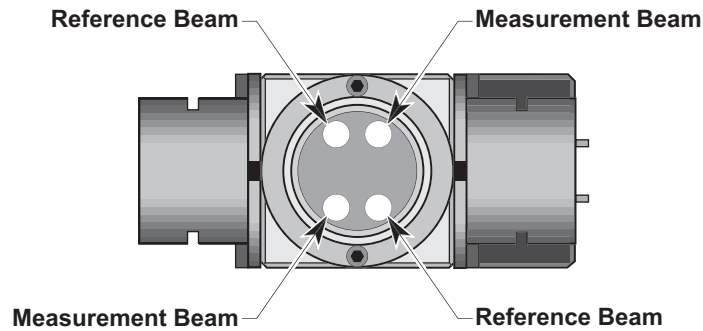

Figure 152 Differential interferometer as viewed from plane mirrors with proper alignment
- 13 Remove the alignment aid. The measurement beam and the reference beam should now exit the interferometer aperture in diametrically opposite positions. Switch the laser head to its large aperture. See Figure 152.